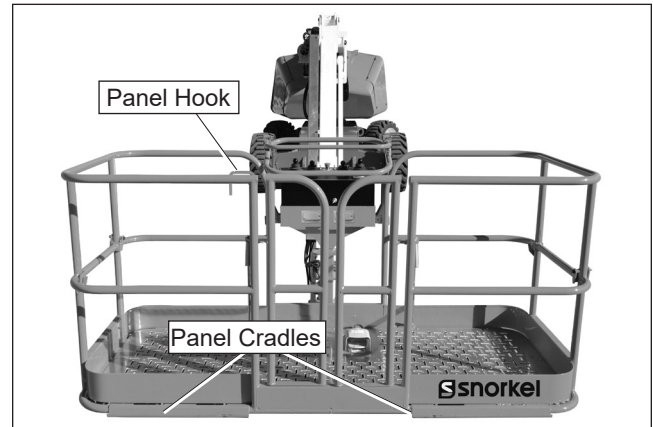

Figure 7.14 – Panel Carrier
- Inspect the cradles (refer to Figure 7.14) and the hook to make sure they are in good condition and are not bent or distorted.